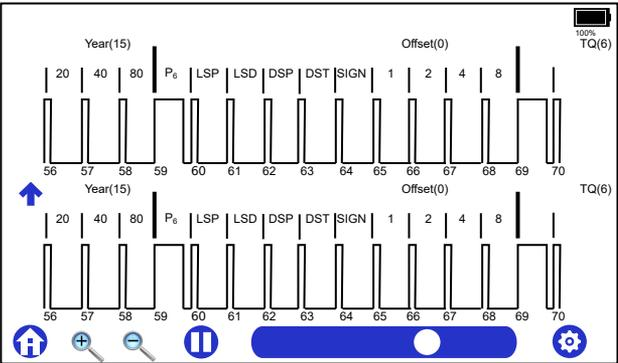

Figure 29: Input 1+2 Waveform Display Screen
2. Touch **↑** to toggle between the text display and the waveform display. Figure 29 shows an example of the waveform mode.